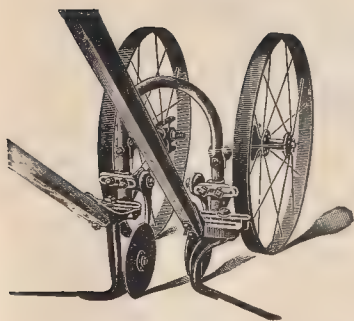
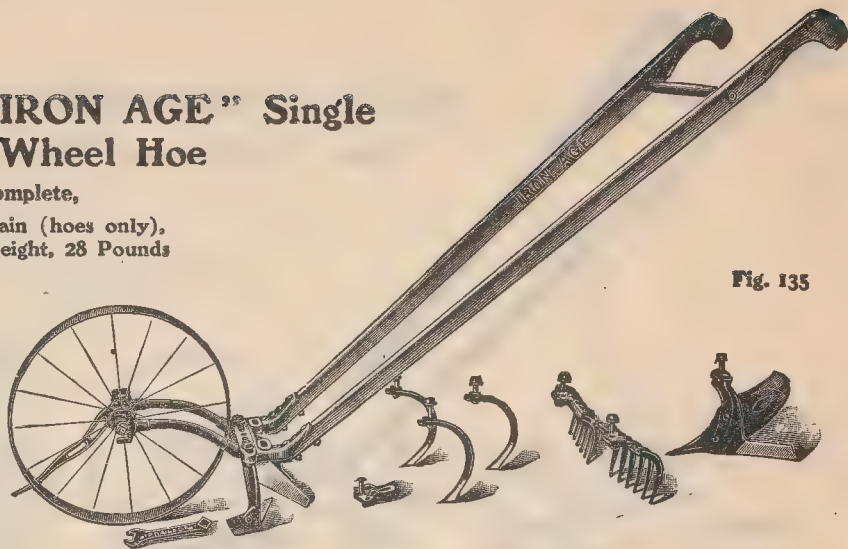

**Fig. 133**
Fig. 135
**No. 4 "IRON AGE" Drill Seeder Attachment.** Price, as shown in Fig. 133 with all necessary parts,
In designing this tool we have kept in mind the inter-changing of parts, and we are pleased to state the following attachments may be purchased with this tool or added any time in the future: No. 6 "IRON AGE" Hill and Drill Seeder Attachment, Fig. 134, page 14; No. 4 "IRON AGE" Drill Seeder Attachment, Fig. 133, page 14; Double Mold-board Plow Attachment, Fig. 170, page 14; Onion Set Gatherer, Fig. 33, page 14; Single Weeder Attachment, Fig. 84, page 18. Furthermore, any one wishing to purchase cultivating tools, such as shown in connection with the No. 20 Wheel Hoe, Fig. 135, page 17, may do so—the frames of the No. 25 and No. 20 being identical.
For cut of this attachment see Fig. 133, page 14. It is very similar to the No. 6 "IRON AGE" Hill and Drill Seeder Attachment, but instead of sowing the seed in both hills and drills it sows them in drills or continuous rows only. When this attachment is applied to the No. 20 Wheel Hoe the combination makes the same tool as the No. 17 "IRON AGE" Combined Single Wheel Hoe and Drill Seeder.